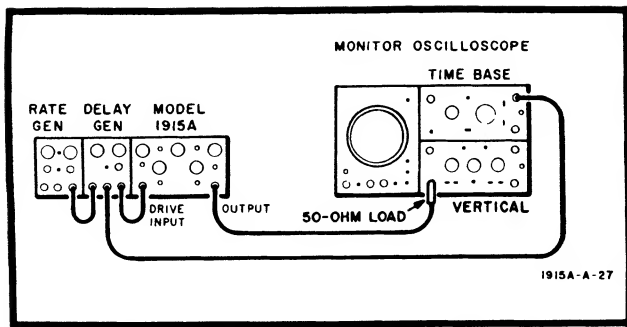

Figure 3-4. Basic Operating Setup
c. With Model 1900A mainframe power off, connect the equipment as shown in Figure 3-4.